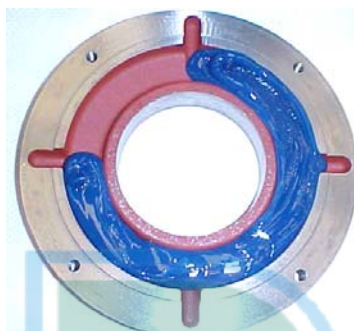

Figure 7.3: Outer bearing cap
- Fill up to $\frac{3}{4}$ of the inner and outer bearing cap deposits with the recommended grease (Figure 7.3) and lubricate the rolling bearing with enough grease before assembling it;
When the bearing is opened, inject the new grease through the grease nipple to expel the old grease found in the grease inlet tube, and apply the new grease in the rolling bearing, to the inner and outer rings, filling $\frac{3}{4}$ of the empty spaces, as shown in Figure 7.3. In case of double bearings (ball bearing + roller bearing), also fill $\frac{3}{4}$ of the empty spaces between the intermediate rings; Never clean the rolling bearing with cotton-based cloths, because they leave some lint, working as solid particles.